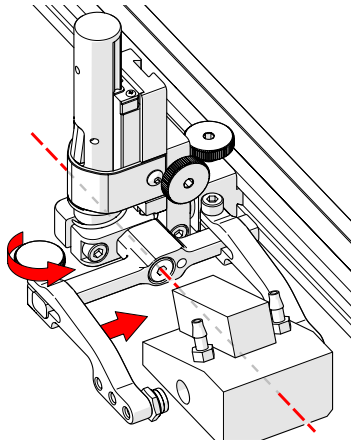

Fig. 175 - Adjust outer arm
5. Loosen the probe holder arm adjustment knob (Fig. 175) and slide the probe holder arm along the yoke pinching the wedge in place.